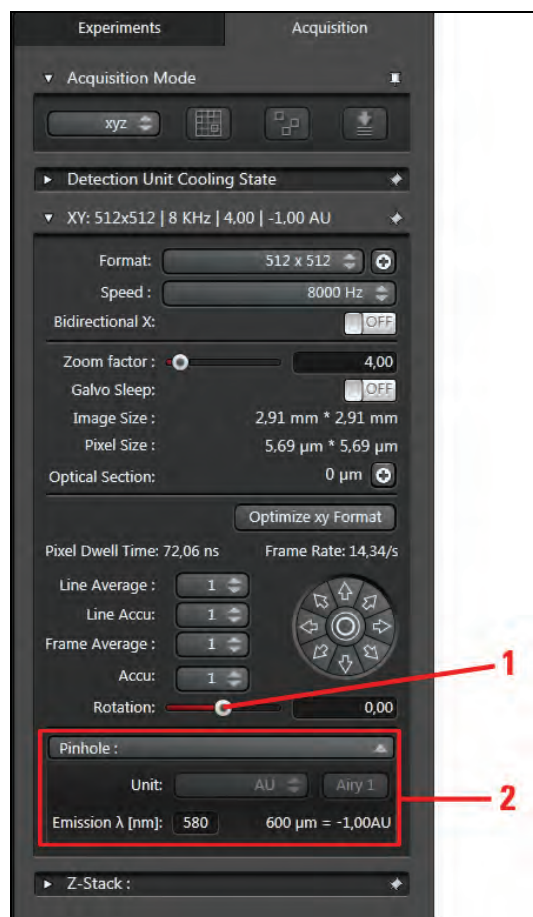

Figure 171: Adjusting the diameter of the pinhole and rotation
5. Open the **Acquisition** tab and adjust the rotation to 0° using the slider (**Figure 171, item 1**).
For VIS and UV excitation, set the **Pinhole** diameter to **1 Airy**; for MP excitation set it to the maximum size (**Figure 171, item 2**).